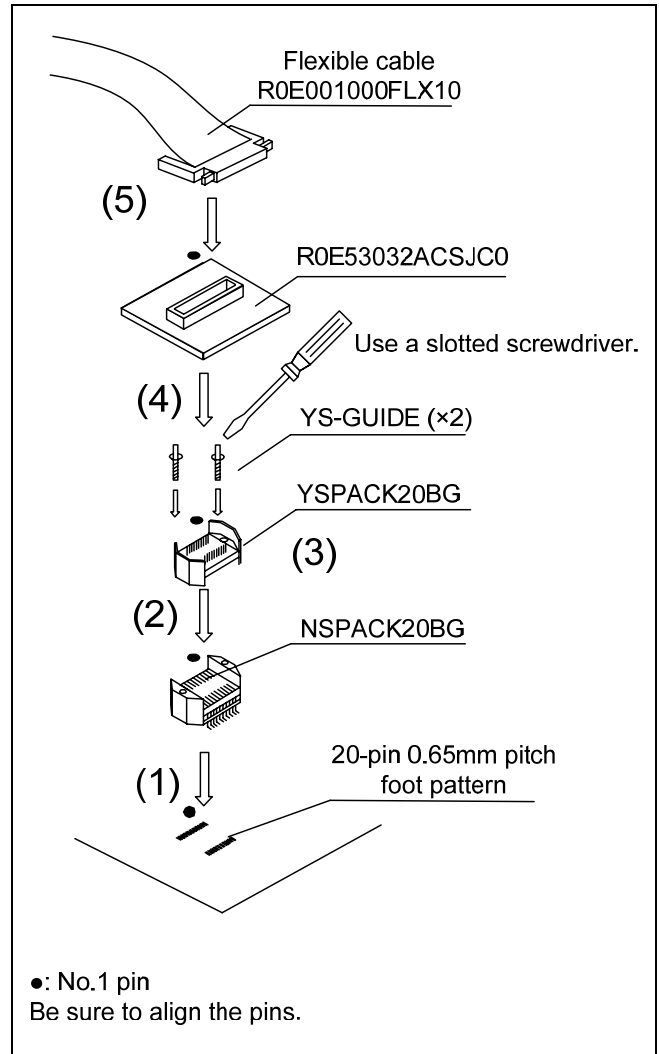

Figure 3 Connection procedure of the R0E53032ACSJC0
5. Connection Procedure (See Figure 3)